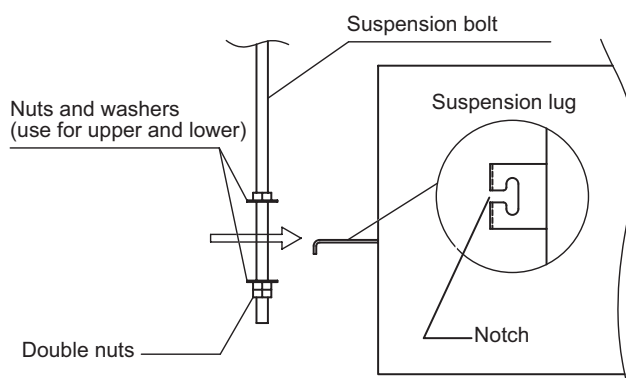

Fig. 2-79
- (3) Thread the 3 hexagonal nuts and 2 washers (field supply) onto each of the 4 suspension bolts (Figs. 2-79 and 2-80). Use 1 nut and 1 washer for the upper part, and 2 nuts and 1 washer for the lower part, so that the unit will not fall off the suspension lugs.